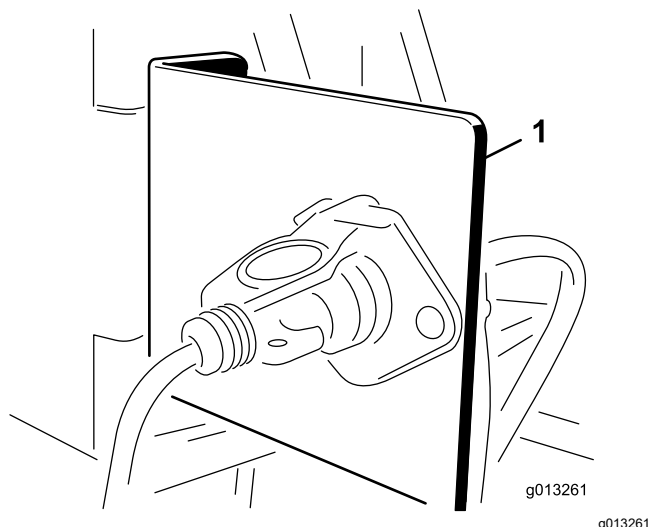

Figure 11
1. Mount the socket bracket to a fixed point at the rear of the tow vehicle using 1 of the mounting brackets provided (Figure 11).